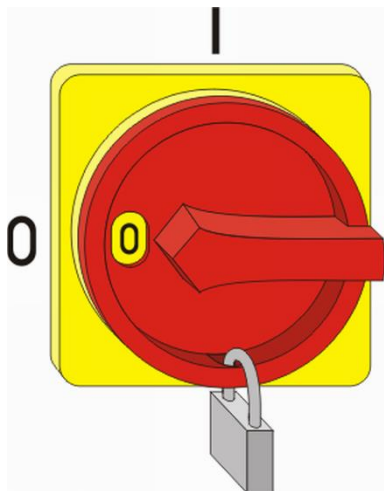

Fig. 30: Lock the main switch
2. Lock the switch in the off position to prevent restart (Fig. 30).